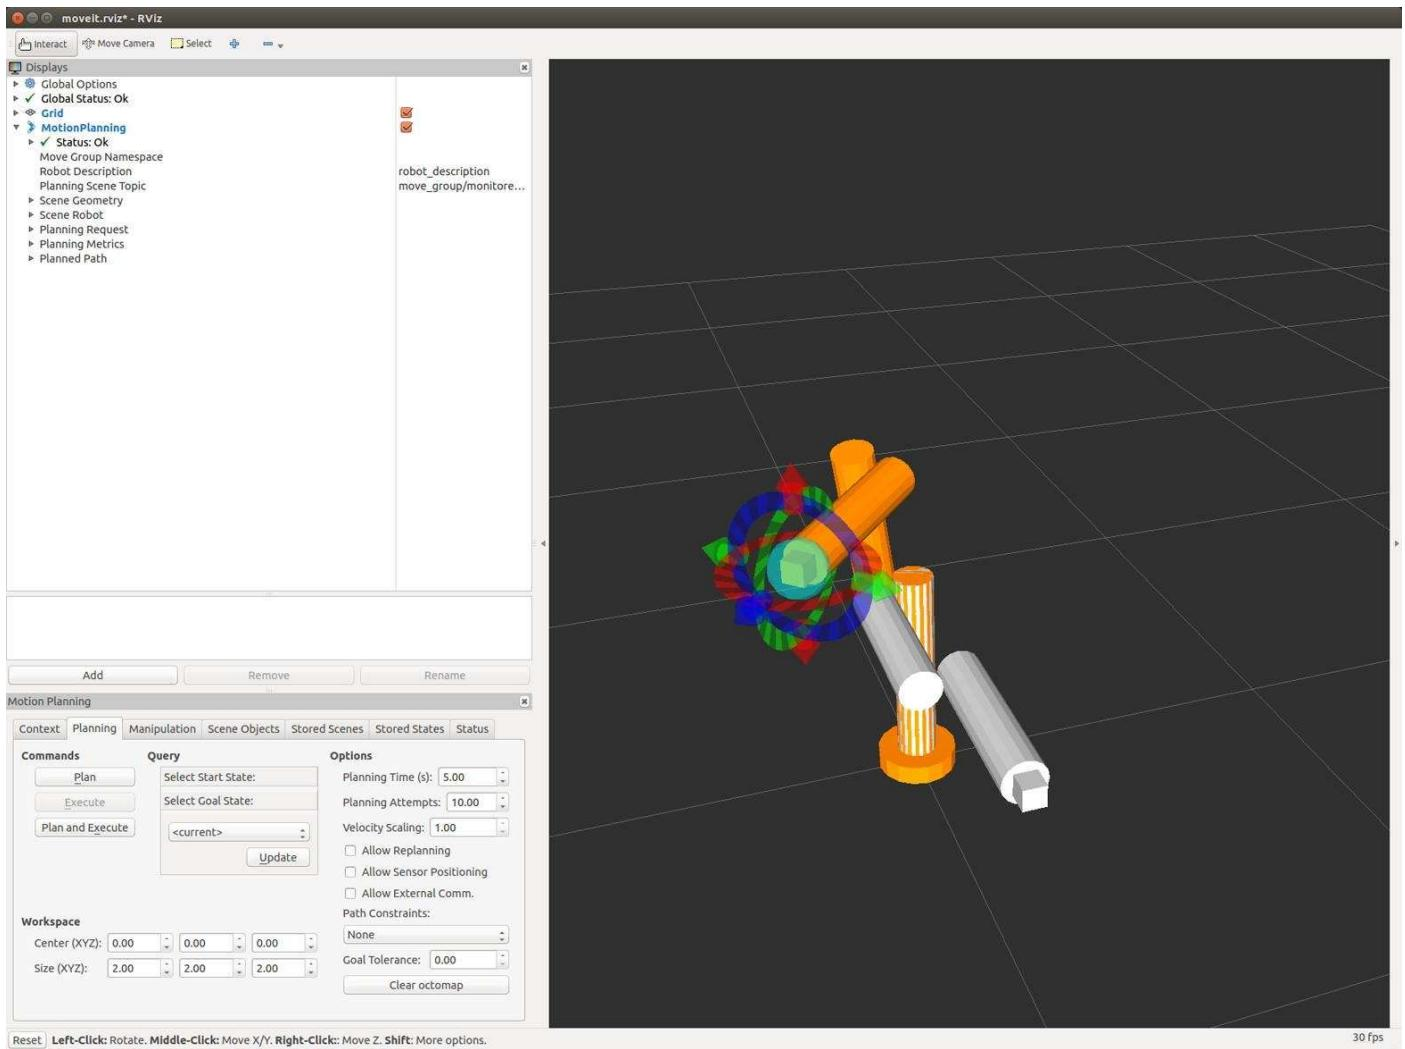

Figure 18-14. Using rviz to define a goal configuration
Click on Motion Planning → Planning. Now we're ready to start playing with the robot. In the rviz window, the multicolored marker attached to the robot's hand allows you to translate and rotate the hand in space. As you do that, the inverse kinematics (IK) solver is trying to find a configuration of the robot arm that will put the hand where you want it. The configuration that it finds will be visualized for your review, as shown in Figure 18-14.